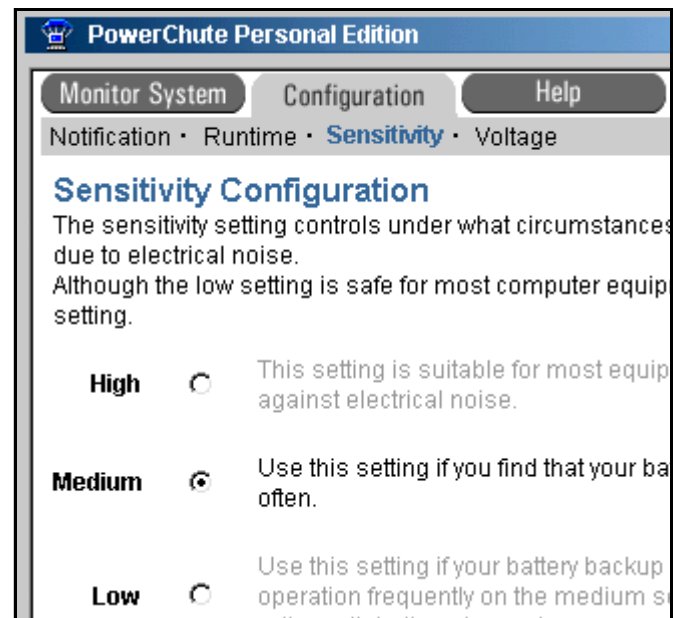

FIG. 4
4. Select the next subtab called Sensitivity. Choose Medium for the sensitivity configuration. See FIG. 4.